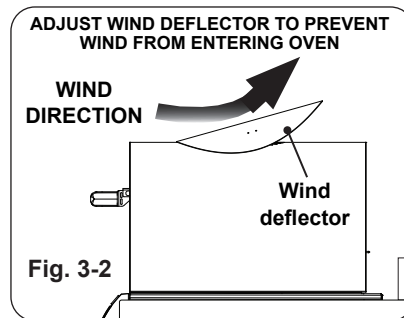

Fig. 3-2
**CAUTION:** Wind blowing into or across the oven exhaust can cause poor performance and/or dangerous overheating. Install the pizza oven so that the prevailing wind blows toward the front of the unit. A wind deflector is equipped to assist in proper airflow during windy conditions. See Fig. 3-2.